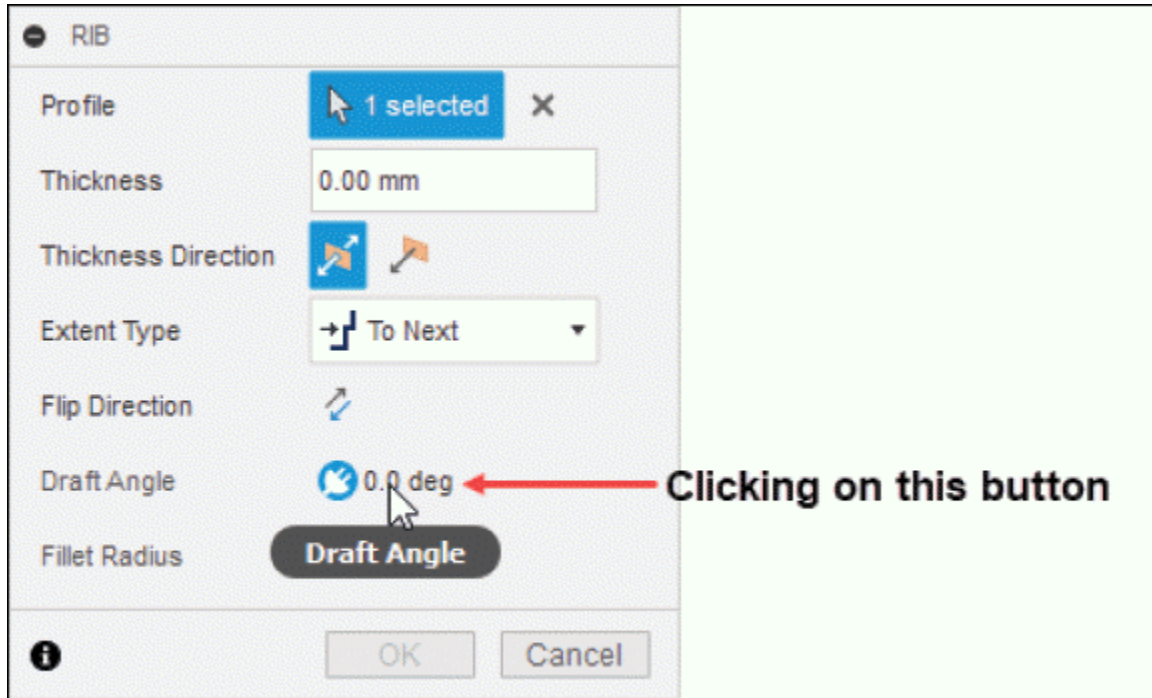
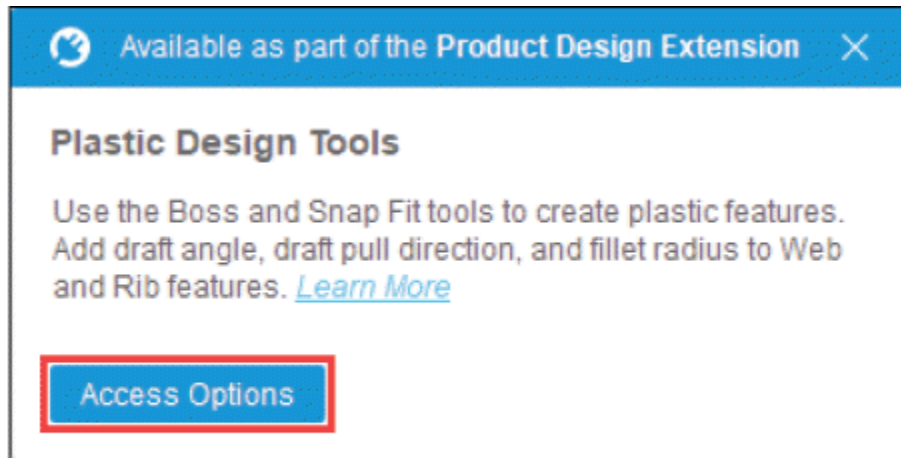
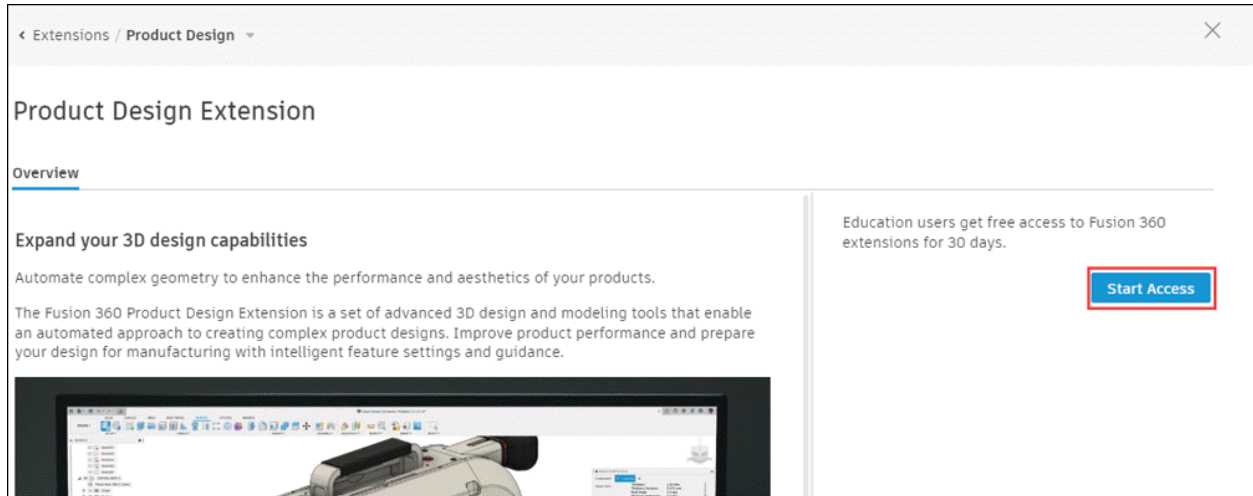

Figure-24. Clicking on the button
Figure-25. Pop up box on clicking Draft Angle section
Figure-26. Extension Manager dialog box
- Click on the **Draft Angle** section in the **RIB** dialog box; refer to Figure-24. A pop-up box will be displayed; refer to Figure-25.
- Click on the **Access Options** button highlighted in the pop-up box; refer to Figure-25. The **Extension Manager** dialog box will be displayed; refer to Figure-26.
- Click on the **Start Access** button highlighted in the dialog box; refer to Figure-26. The **Product Design Extension** access will be enabled successfully; refer to Figure-27.